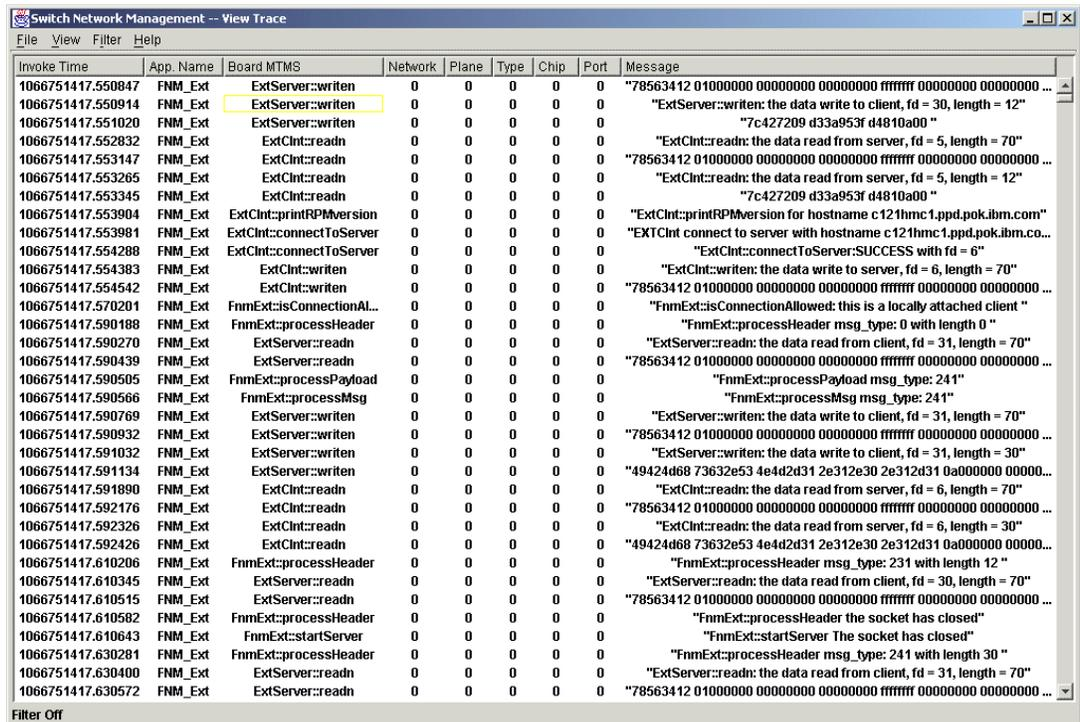

Figure 25 Switch Network Management: Trace view
- ▶ **Isswtrace** - This command enables you to view SNM trace log, similar to the GUI screen shown in Figure 25.